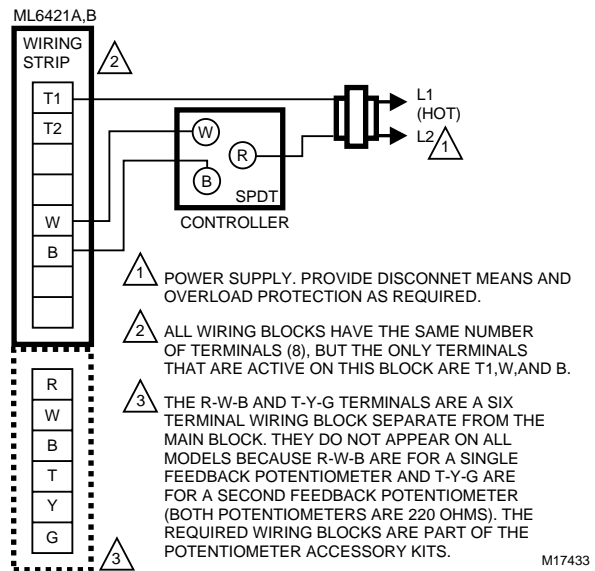

Fig. 5. ML6421 typical wiring diagram.
NOTE: See Fig. 5 through 8 for typical wiring hookups.
2. Using the appropriate wiring diagram (see Fig. 5 through 8), connect power and control wires to the actuator. Make sure that all wiring is correct.